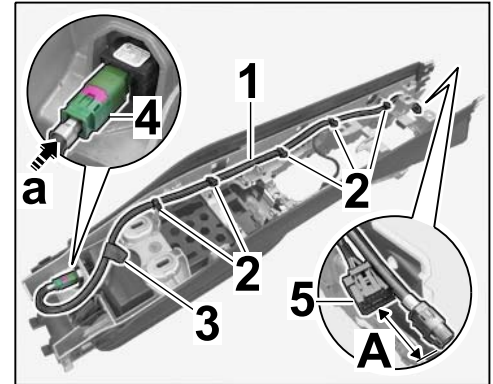

Figure 12
- 3.4 Connect electric plug connection ⇒ *Figure 12-4-* (⇒ *Figure 12-a-*).
It must project ⇒ *Figure 12-A-* by approx. 40 mm on the standard connector ⇒ *Figure 12-5-*.